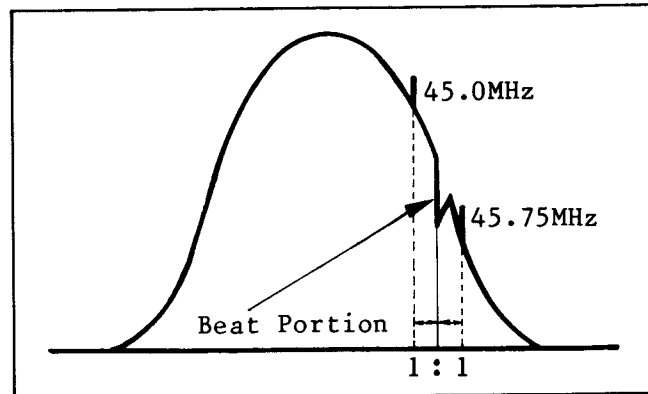

Fig. E37
8. Adjust the VCO (T701) so that the beat portion is at center as shown in Fig. E37.